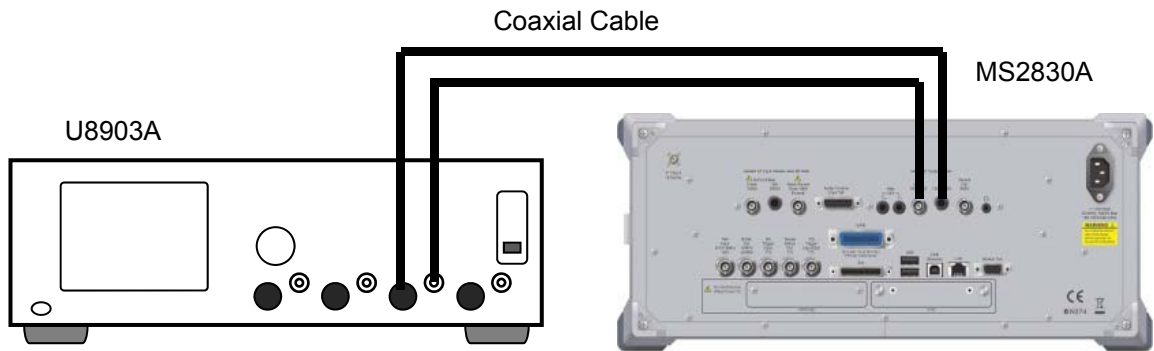

Figure 4.3.6-1 Connection for Total Harmonic Distortion + Noise Test
1. Connect the devices according to Figure 4.3.6-1.